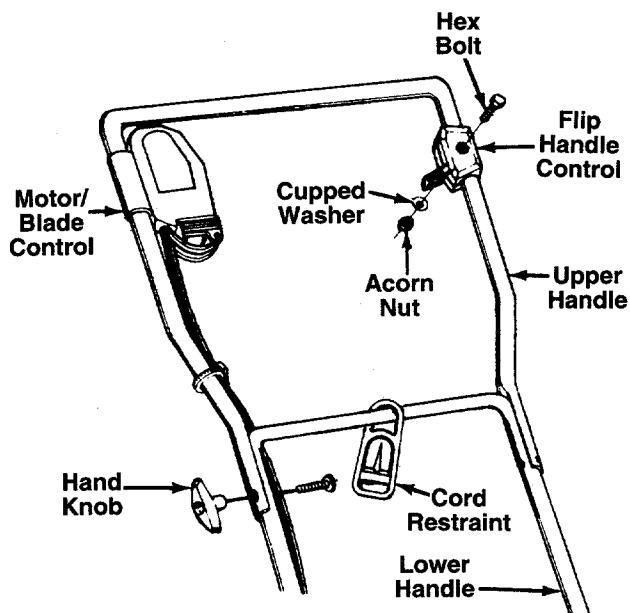

FIGURE 3.
1. Place the cord restraint onto the lower handle as shown in figure 3.
1. With the cord restraint on top of the lower handle as shown in figure 3, place the upper handle in position over the lower handle. The motor/blade control must be on the right side (chute side) of mower. Secure the upper handle using curved head bolts and hand knobs. The head of the bolts should be to the inside of the handle. Tighten securely.